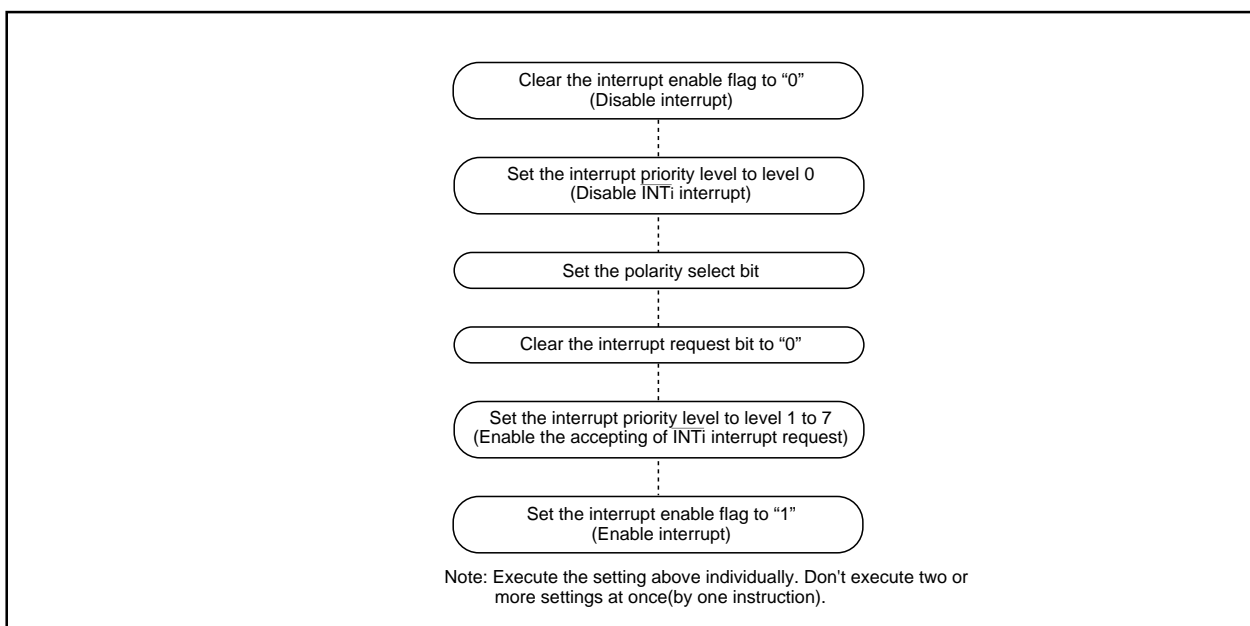

Figure 1.10.13. Switching condition of $\overline{\text{INT}}$ interrupt request
(3) The $\overline{\text{NMI}}$ interrupt
(4) External interrupt
- When the polarity of the $\overline{\text{INT0}}$ to $\overline{\text{INT2}}$ pins is changed, the interrupt request bit is sometimes set to "1". After changing the polarity, set the interrupt request bit to "0". Figure 1.10.13 shows the procedure for changing the $\overline{\text{INT}}$ interrupt generate factor.